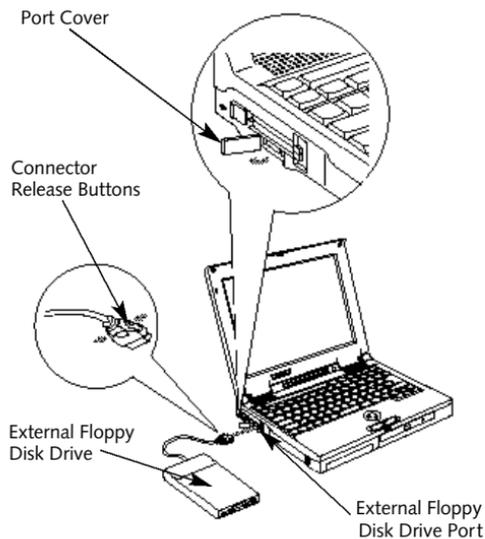

Figure 4-6 External Installation of a Floppy Disk Drive
3. Open the external floppy disk drive port cover on the left side panel of your notebook (Figure 4-6), by gently pulling on the front edge of the cover and swinging it toward the back of your notebook.
4. Align the external floppy disk drive cable with the smaller connector towards the body of your notebook with the wide side of the connector down. (Figure 4-6.)
3. Squeeze the releases on the sides of the external floppy disk drive cable connector together. (The connector is next to the body of your notebook.) (Figure 4-6.)